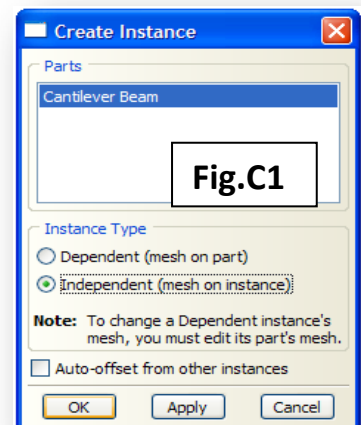

Fig.C1
1. From the main menu bar select **Instance→Create**. The **Create Instance** dialogue box will open (**Fig.C1**).